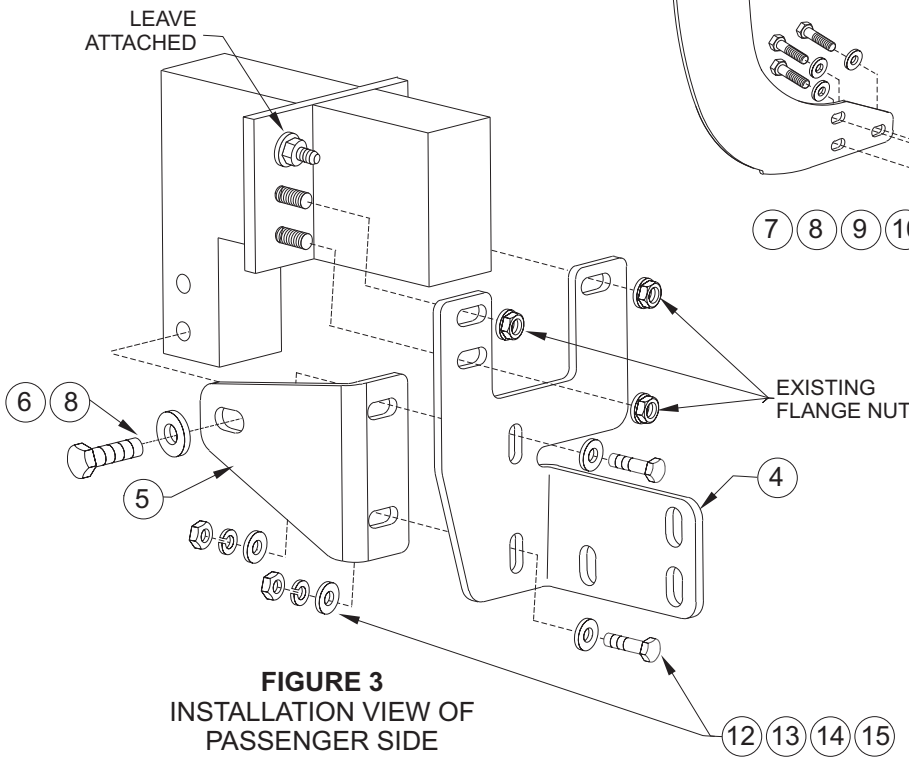

FIGURE 3
- STEP 4. Determine passenger and driver side bottom brackets. Attach both bottom brackets with existing hardware previously removed. Leave loose. **SEE FIGURE 3.**
- STEP 5. Attach bottom support brackets to vehicle using metric bolts and 1/2" fasteners and to previously installed bottom bracket 3/8" fasteners as shown. Leave loose. **SEE FIGURE 3.**